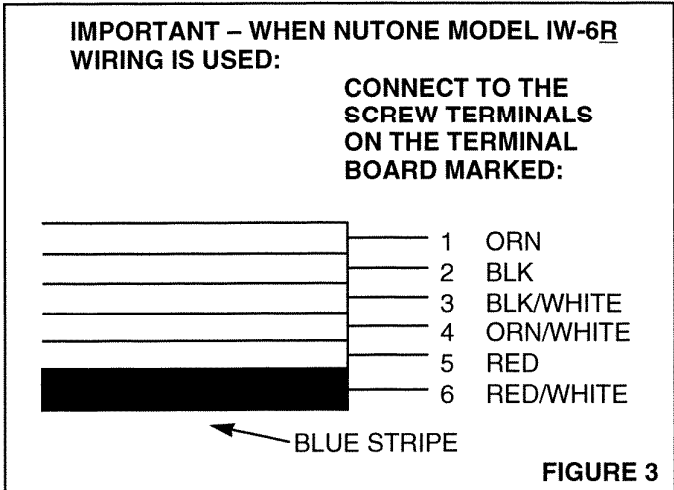

FIGURE 3
4. Refer to Figure 3. Use the Wire Matching Chart if you are retro-fitting a system with the previously used IW-6R cable.